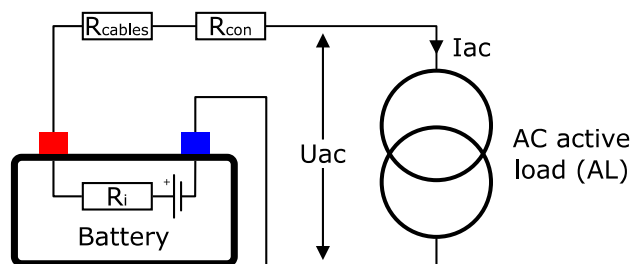

Figure 4: Internal resistance measurement
The battery internal resistance ( $R_i$ ) is measured by draining a defined AC current through an active load (AL) from the battery and measuring the AC voltage drop across the load terminals. The principle is represented in Figure 4.